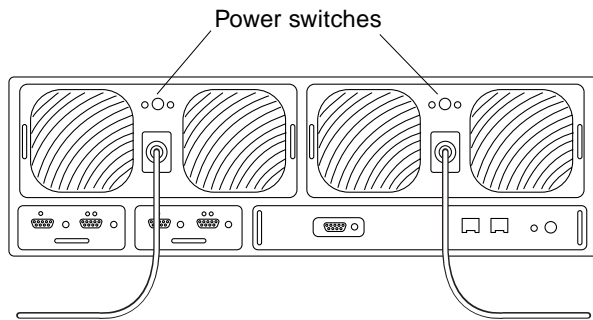

FIGURE 7-1 Power Cords Connected to the Power and Cooling Units
- 2. Power off the power and cooling unit by pressing the power switch (FIGURE 7-1).**
- 4. Disconnect the power cord from the power and cooling unit connector by squeezing both sides of the connector and pulling straight out (FIGURE 7-1).**